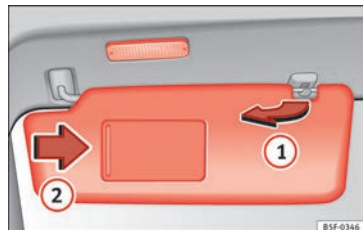

Fig. 146 Sun visor
- The sun visor can be pulled out of its mounting and turned towards the door »» **Fig. 146** .